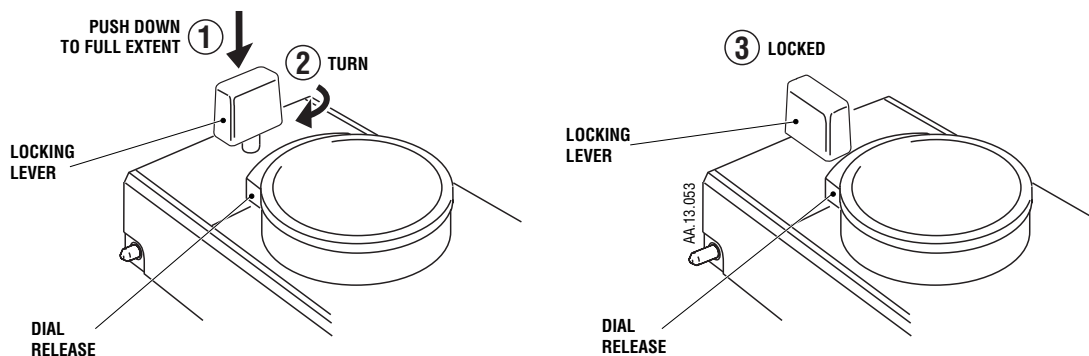

Fig. 3 Locking The Vaporizer On To A Manifold
6. Press down the locking lever (1) to the full extent of its travel and then turn it clockwise (2) to the locked position (3) to lock the vaporizer on to the manifold as illustrated on Fig. 3.